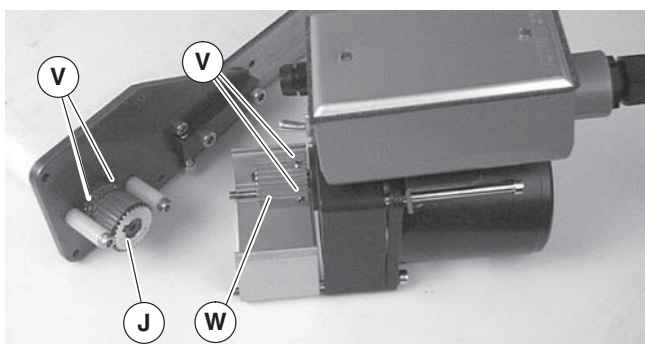

Figure 14
2. Loosen set screws (Figure 14, item V) and remove driven pulley (J) or drive pulley (W).
4. Loosen set screws (Figure 14, item V) and remove drive pulley (W).
5. Replace drive pulley (W) on new gearmotor and tighten set screws (V) to 33 in-lb (3.7 Nm).